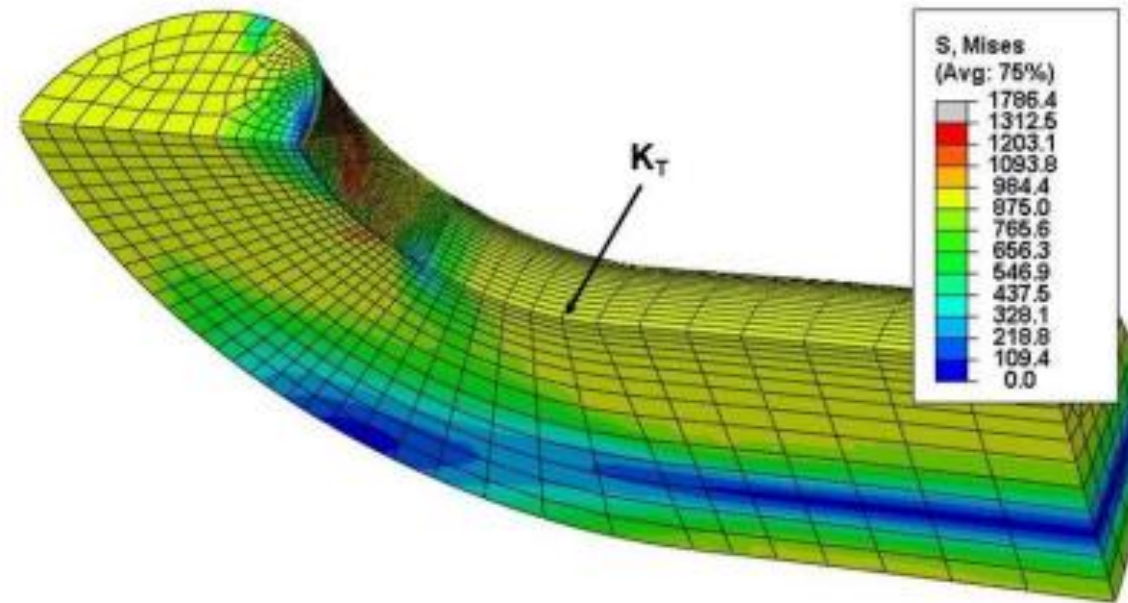

Figure 3.5: Von Mises stress contour plot when the proof load is applied
- o A typical example of CAE software is a finite-element (FE) program used to calculate factors such as the stress, deformation, and heat transfer on a part of an assembly
- Figure 3.5 illustrates the contour plots of stress on a part under load.